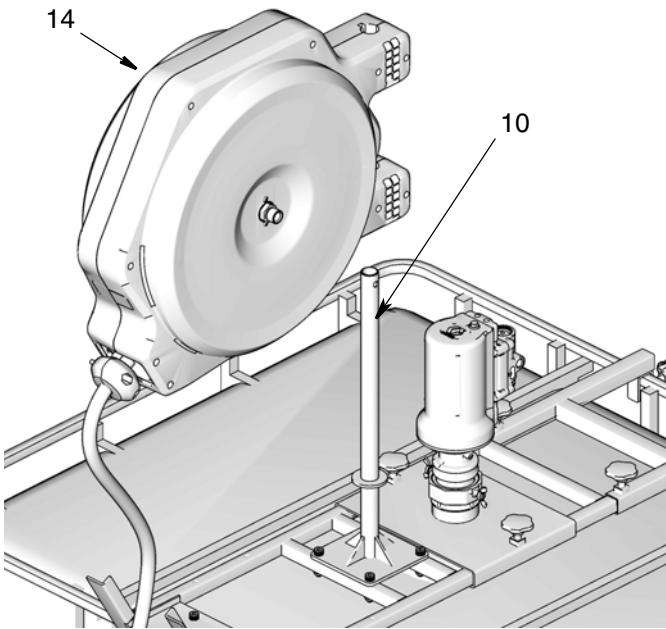

FIG. 17
3. Install the hose reel (14) on the reel bracket (10) as shown in FIG. 17.